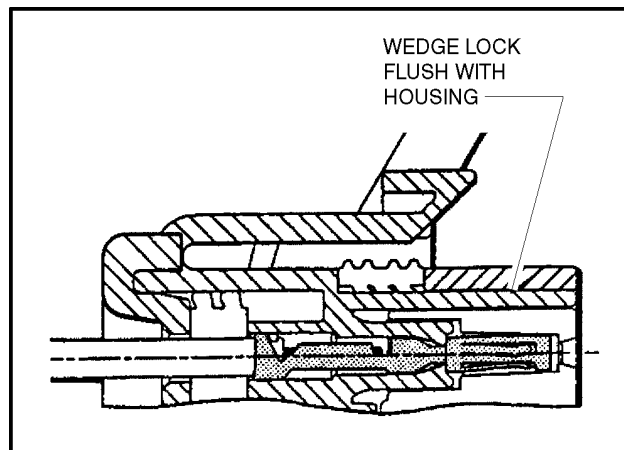

Figure 8-5. Connector Assembly Figure 4
4. Slide the wedge lock into the housing until it is flush with the housing see Figure 8-5.